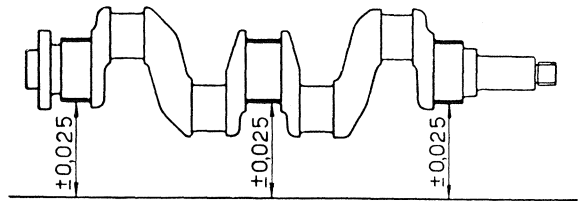

Fig. 71 - Crankshaft journal alignment maximum permissible tolerances.
- Alignment of journals. Maximum permissible tolerance is $\pm .00098''$ ($\pm 0,025$ mm) (fig. 71).